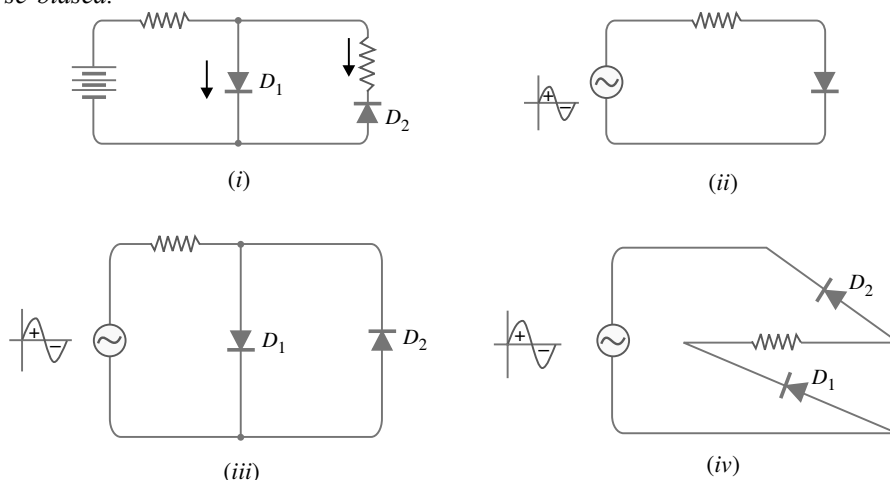

Fig. 4.5
**Example 4.1.** In each diode circuit of Fig. 4.5, find whether the diodes are forward or reverse biased.
(i) Refer to Fig. 4.5 (i). The conventional current coming out of battery flows in the branch circuits. In diode  $D_1$ , the conventional current flows in the direction of arrowhead and hence this diode is **forward biased**. However, in diode  $D_2$ , the conventional current flows opposite to arrowhead and hence this diode is **reverse biased**.
(ii) Refer to Fig. 4.5 (ii). During the positive half-cycle of input a.c. voltage, the conventional current flows in the direction of arrowhead and hence diode is **forward biased**. However, during the negative half-cycle of input a.c. voltage, the diode is **reverse biased**.
(iii) Refer to Fig. 4.5 (iii). During the positive half-cycle of input a.c. voltage, conventional current flows in the direction of arrowhead in  $D_1$  but it flows opposite to arrowhead in  $D_2$ . Therefore, during positive half-cycle, diode  $D_1$  is **forward biased** and diode  $D_2$  is **reverse biased**. However, during the negative half-cycle of input a.c. voltage, diode  $D_2$  is **forward biased** and  $D_1$  is **reverse biased**.
(iv) Refer to Fig. 4.5 (iv). During the positive half-cycle of input a.c. voltage, both the diodes are **reverse biased**. However, during the negative half-cycle of input a.c. voltage, both the diodes are **forward biased**.